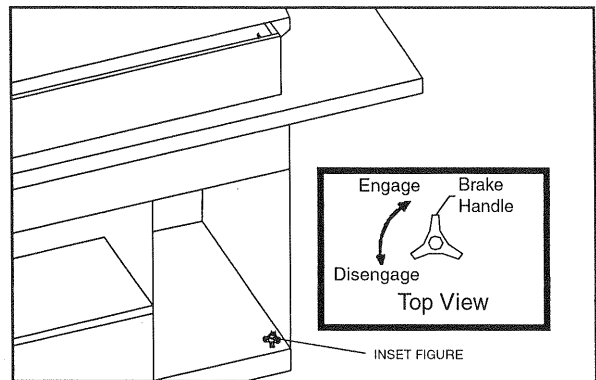

Figure 10. Base Brake
3. Move your grill to an open area that's level and engage the Base Brake. (See Figure 10, Page 11)
Your Sterling G-Series cabinet comes equipped with a Base Brake mechanism for use while the grill is stationary. The Brake is located at the right front corner of the back side of the Base. Engage the Base Brake by turning the Brake Handle clockwise until you feel resistance. (Figure 10.) Turn the Brake Handle one half turn past this point for full engagement. Disengage the Brake by turning the Brake Handle Counter-Clockwise.